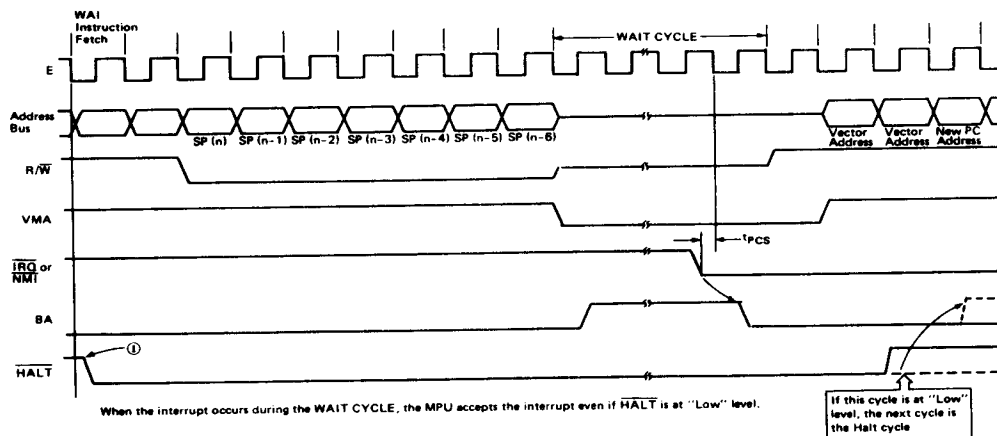

Figure 17 HD6802W WAIT CYCLE &  $\overline{\text{HALT}}$  Request
The "Halt" signal is not accepted after the fetch cycle of the WAI instruction (See ① in Fig. 17). In the case of the "WAI" instruction, the MPU enters the "WAIT" cycle after stacking the internal registers and